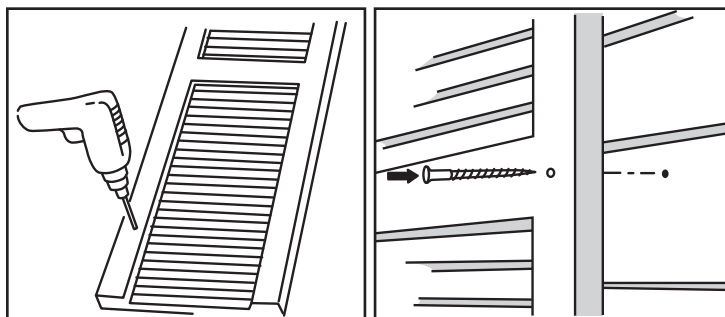

Figure 73.
- Pre-drill holes through the shutters for attachment screws and mark the location of these holes on the siding (Fig. 73).